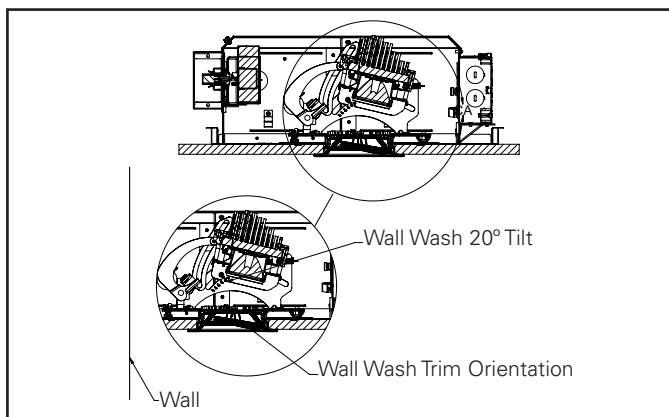

Figure 20.
7. If using a wall wash trim or adjustable trim, the angle of the trim lens should align with the direction and angle of the mechanism head (Figure 20).